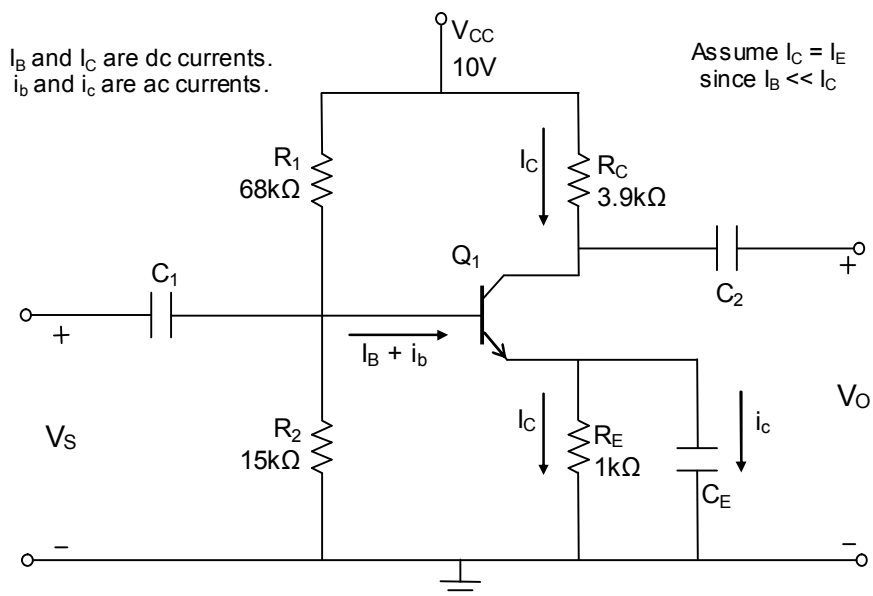

Figure 6.1: Common-emitter circuit with emitter bypass capacitor
- (ii) In the second part of the simulation, transient analyses should be performed in B2 Spice on the circuit shown in Figure 6.1 for  $R_2 = 1k\Omega$ ,  $5k\Omega$ ,  $15k\Omega$ , and  $25k\Omega$ . Record the values of  $V_S$  and  $V_O$ . Assume  $V_S = 0.02V_{P-P}$  at 1kHz, the transistor is a 2N3904, and all capacitors are greater than or equal to  $10\mu F$ . For the second part, you may use source resistance  $R_S (=50\Omega)$ .
Figure 6.1 shows a schematic diagram of a BJT common-emitter (CE) amplifier circuit. BJT transistor amplifiers are frequently used in the common-emitter configuration (CE), since this design gives both a high current gain ( $A_i$ ) and a high voltage gain ( $A_v$ ). This experiment explores the dc and ac characteristics of the common-emitter circuit and how changing the Q-point affects circuit performance.